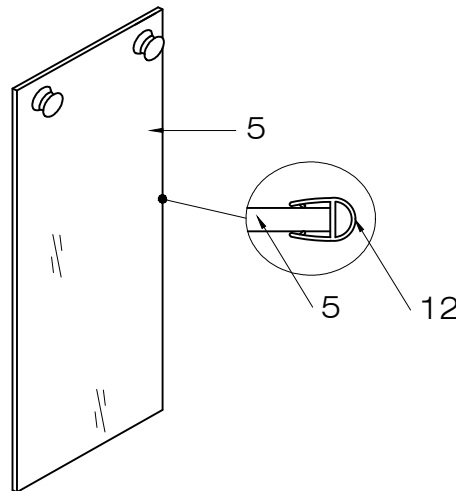

FIG. 8
3. Place seal strip (#12) to the door panel on the side that closes to the wall. [SEE FIG.8]